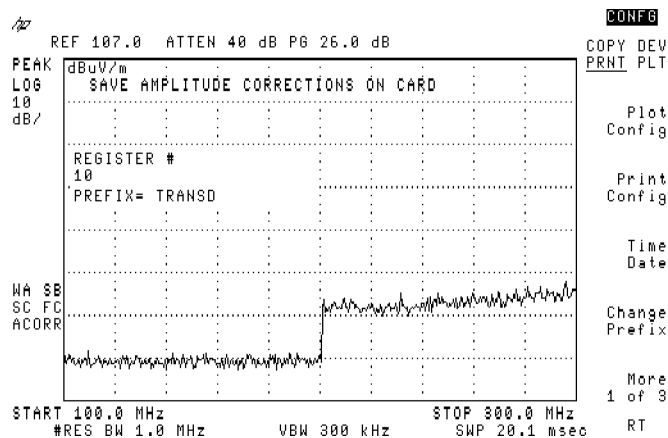

Figure 3-93. **CONFIG** Softkey Screen
2. Press **CONFIG**. See Figure 3-93.